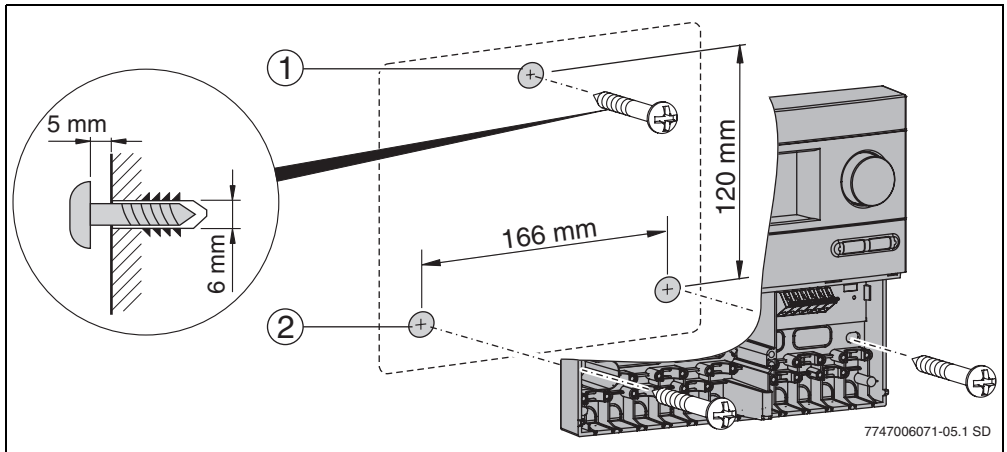

Fig. 4 Mounting the controller on a wall
- ▶ Drill the upper mounting hole (→ Fig 4., no. 1) and screw in the accompanying screw until 5 mm clear of the surface. Unscrew the screw at the bottom of the controller and remove the cover. Hang the controller on the wall by means of the opening in the rear panel. Mark out the lower mounting holes (→ Fig. 4, no. 2), remove the controller, drill the holes and insert wall plugs. Remount the controller and insert the mounting screws through the lower mounting holes, left and right. Ensure the controller is level and screw firmly in place.